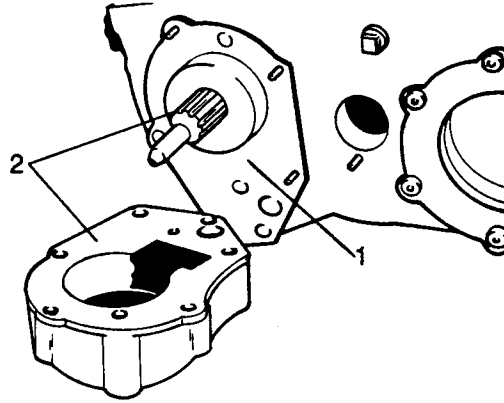

Fig H2.30
- (6) Refer to Fig H2.30, Fit the shims (1) calculated in steps (3) and (4) above.
- (7) Fit the speedometer drive worm and speedometer drive casing (2) retaining them with the nuts and lock washers. Tighten the nuts to a torque of 13 to 18 N.m.
- (8) Replace the front output shaft cover (see Sub-sub-section H1.4, Chapter 3).
- (9) Refit the transfer box to the vehicle (see Sub-sub-section H2.3, Chapter 1).